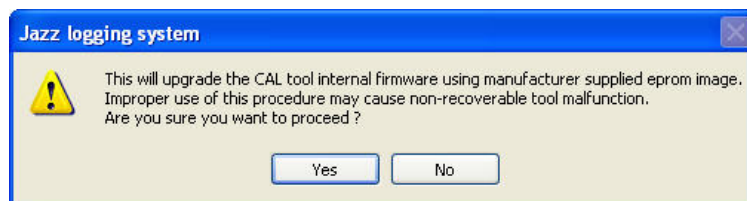

Figure 6-3 Warning Message during firmware upload
2. The following message will appear (Figure 6-3). Click **Yes** to validate your choice.